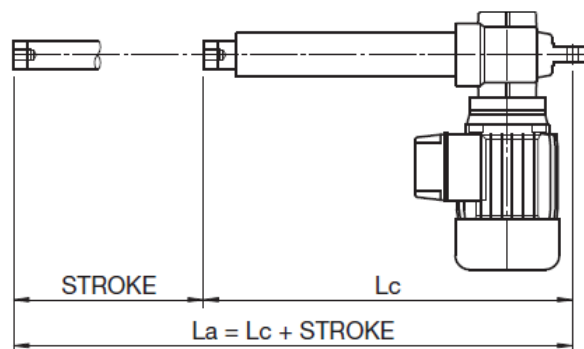

Figure 6.5 – “Lc” and “La” dimensions
- The maximum ring positions on the rod consist on the extreme stroke lengths positions “Lc” and “La” (see Fig. 6.5).
- The positions of the two limit switches are the extreme travel positions Lc and La (see Fig. 6.5).
- Check if the extreme dimensions of the actuator “Lc” and “La” (see Fig. 6.5) are compatible with extreme positions of the plant component that has to be moved.
- Before to start relubrication, put the actuator in extended position (La – see Fig. 6.5)